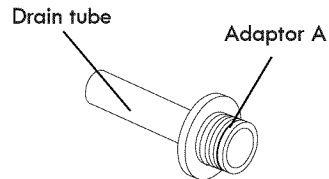

Figure 7
- Attach the drain tube securely to adaptor A (see Fig. 7).